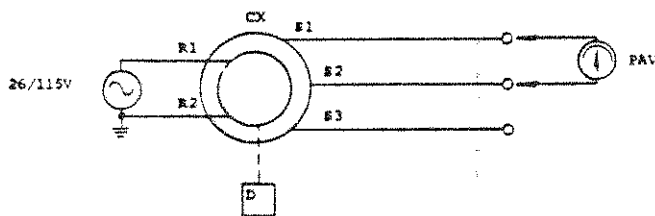

Figure 7-2. Null Test (CX)
- a. With the CX still mounted in the dividing head, set up equipment shown in figure 7-2.